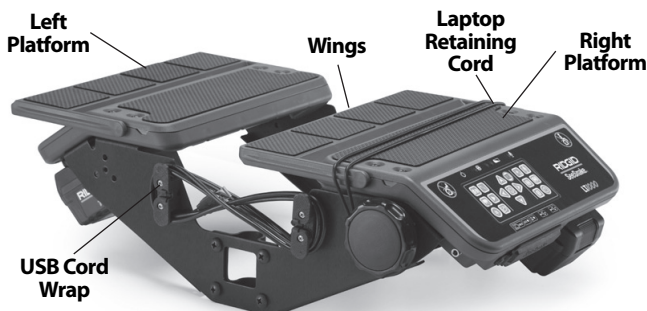

Figure 7 – Lowering the Platform Wings
5. Lead the LT1000 USB cord to the laptop's USB port and plug it into the port. Wrap any excess cord onto the USB cord wraps. (See Figure 7.)